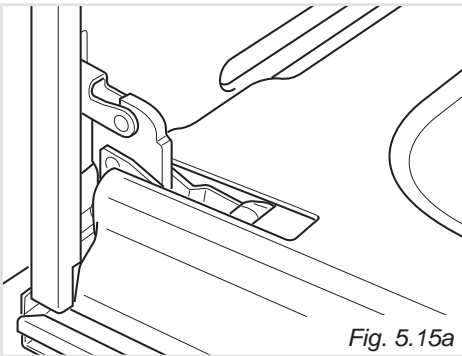

Fig. 5.15a
- Open the door to the full extent (fig. 5.15a).